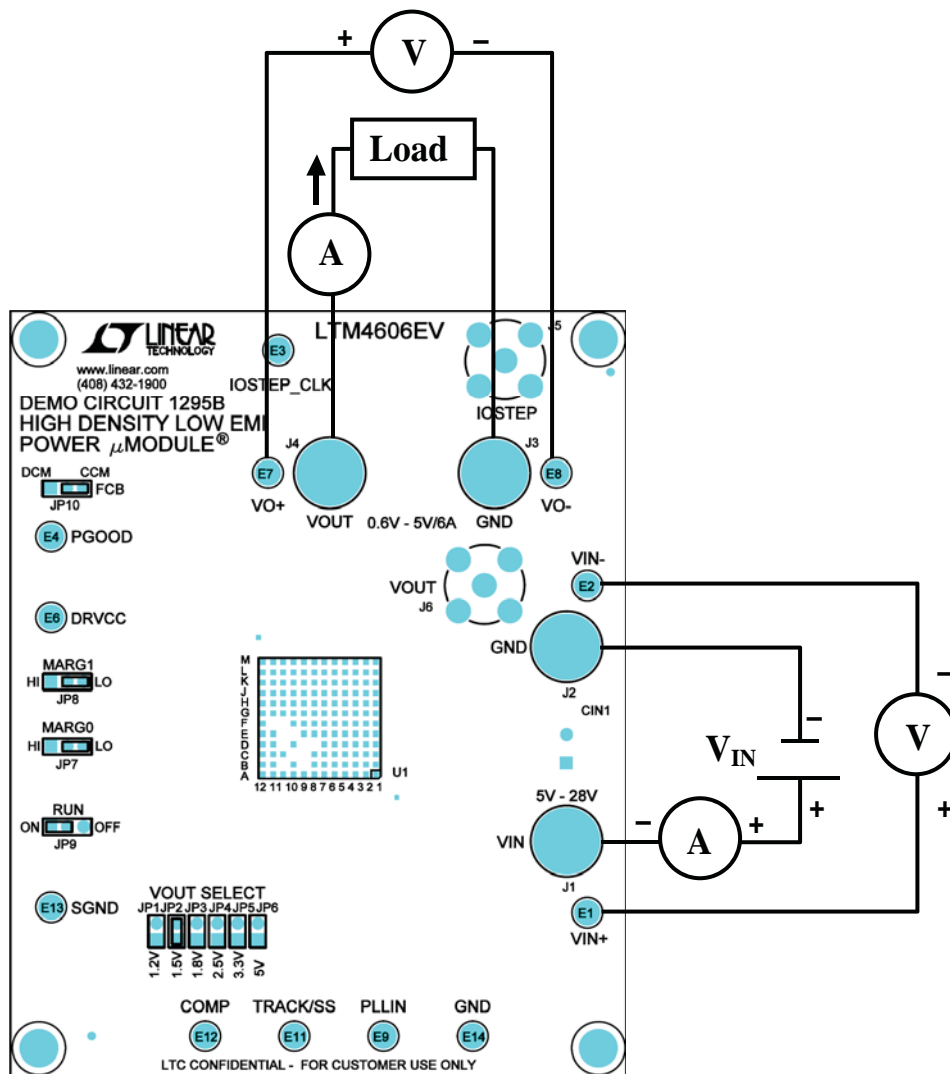

Figure 1. Test Setup of DC1295B
Demonstration circuit DC1295B is an easy way to evaluate the performance of the LTM4606EV. Please refer to Figure 1 for proper measurement equipment setup and follow the procedure below:
2. With power off, connect the input power supply, load and meters as shown in Figure 1. Preset the load to 0A and  $V_{IN}$  supply to be 12V.